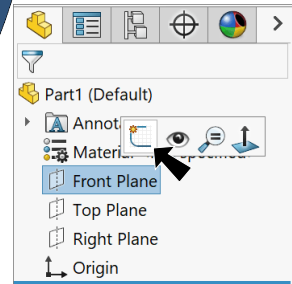

Fig. 1
Step 2. Click **Front Plane** in the Feature Manager and click **Sketch** on the context toolbar, **Fig. 1**.